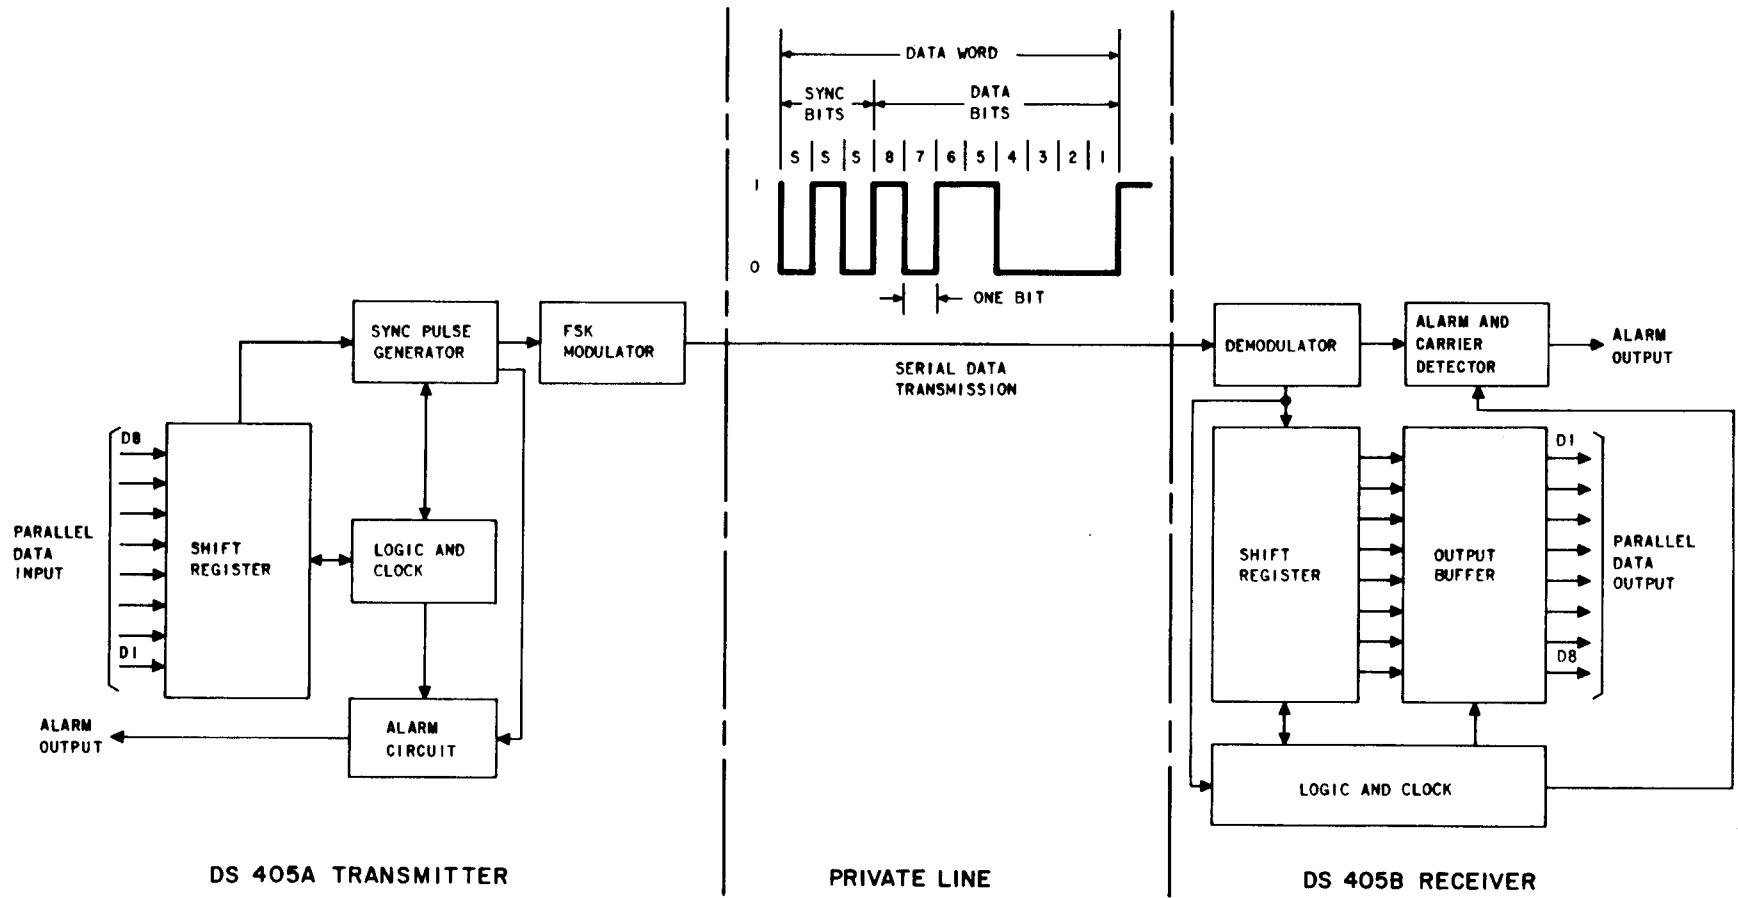

Fig. 1— Parallel-to-Serial Conversion, Serial Transmission, and Serial-to-Parallel Conversion
1.01 Data set (DS) 405A is the transmitter and DS 405B is the receiver for the 405-type Data System. The transmitter samples inputs on 8, 20, or 32 data leads and loads the parallel data into a register. The transmitter then generates three sync pulses and sequentially adds pulses corresponding to the sampled data leads, thus converting the parallel data to serial format. The data "word" is composed of the 3 sync bits plus 8, 20, or 32 data bits (ie, the binary state of 8, 20, or 32 data leads). A block diagram of the 8-channel system is shown in Fig. 1. Transmission is at 700, 880, 1400 or 1760 bits per second (bps) over a voice grade private line. Transmission at 700 or 880 bps requires only a basic channel, while for 1400 bps transmission the line requires C1 conditioning, and for 1760 bps transmission, the line requires C2 conditioning. The receiver establishes synchronization, registers the serial data bits, and converts the serial data back to parallel form at the output. Both the transmitter and the receiver provide an alarm condition in case of some abnormalities. This practice provides supplemental information for data sets 405A and 405B which is not provided in the description, installation, and maintenance practices. One should be familiar with the contents of these practices, listed in Part 4, before reading this practice.